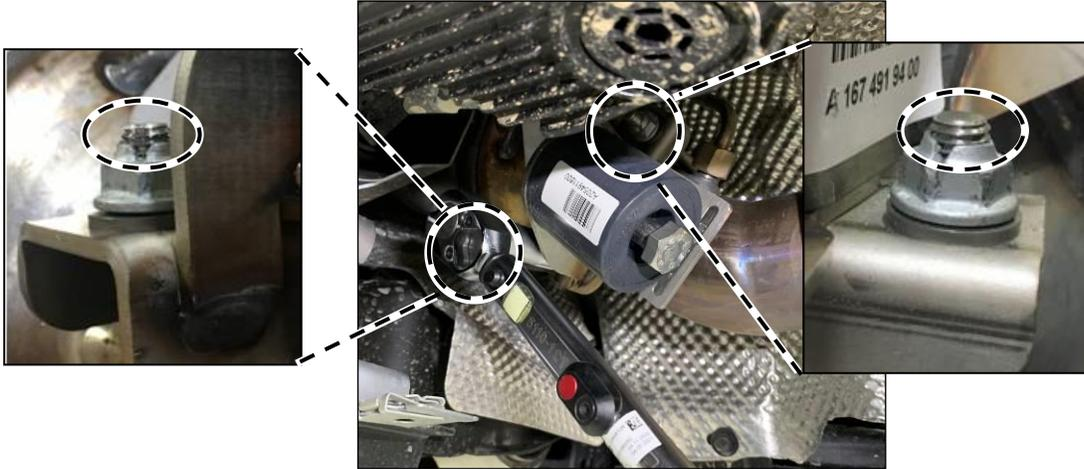

Figure 8
2.6.3.2. The threaded ends of the U-bolt must have the same length/number of threads protruding from the back side of the nuts before torquing to specification (Figure 8).